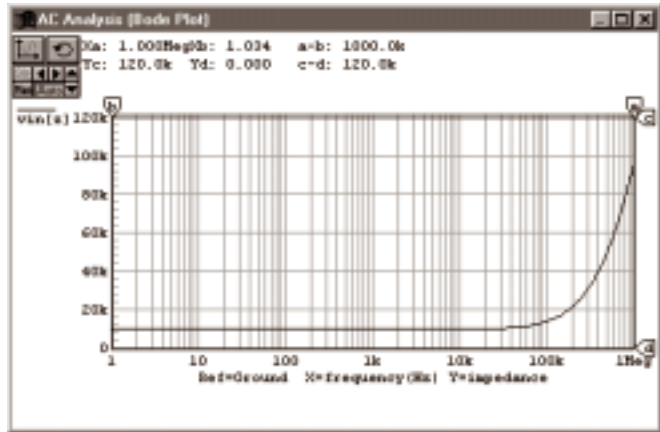

Figure 6.32. This Impedance Plot shows impedance seen by a two-terminal source over frequency.
- 6 View the data as it appears in Figure 6.32.
This causes an impedance plot to appear in the selected analysis window as in Figure 6.32.
The waveform in Figure 6.32 was generated by simulating the ANALOG.CKT circuit, and making an adjustment to the AC Analysis window as shown in Figure 6.31. See *Using the Analysis Windows* earlier in this chapter for more information about manipulating the waveforms.